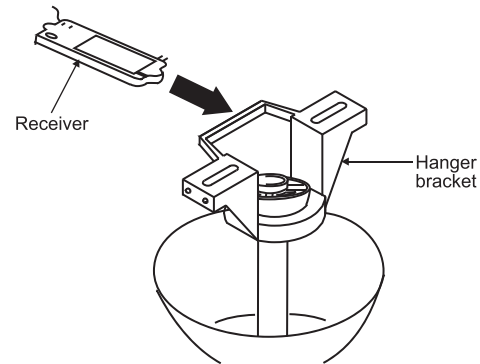

Fig. 13
Step 1. Insert the receiver into the ceiling mounting bracket with the flat side of the receiver facing the ceiling. **(Fig. 13)** For best performance, make sure the Black Antenna, on the end of the receiver, remains extended and not tangled with any of the electrical wires.